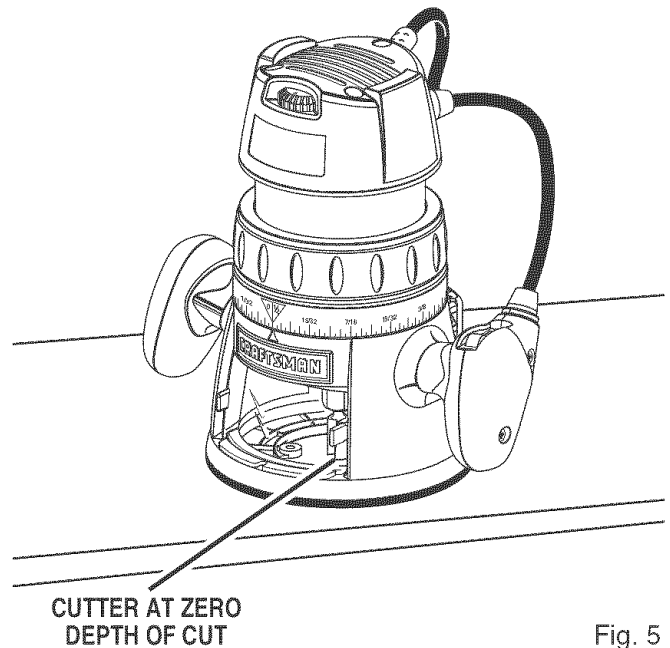

Fig. 5
- Turn the depth indicator ring until the zero lines up with the indicator point on the base. See Figure 5.